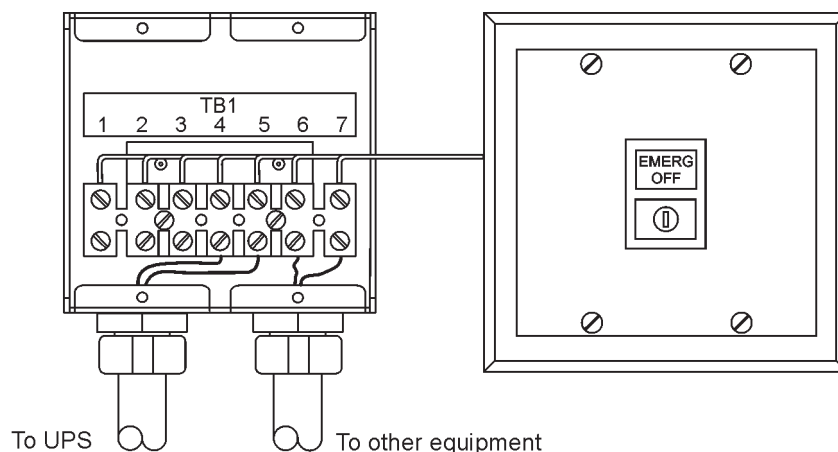

Figure 4-13. Remote EPO switch
A remote EPO switch can be used in an emergency to shut down the UPS and remove power to the critical load from a location away from where the UPS is installed. Figure 4-13 shows a remote EPO switch.
11. If required, install wiring from the remote EPO switch to the trip circuitry of the upstream protective devices. A normally-open (NO) contact is provided between terminals 6 and 7 of the remote EPO switch (where applicable, as shown in Figure 4-13. Remote EPO switch wiring must be in accordance with electrical code requirements.